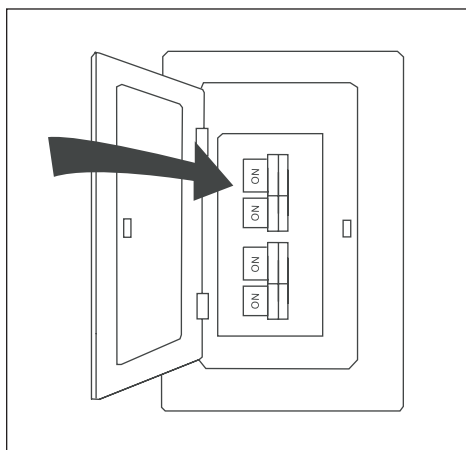

Figure 5.6
6. Turn ON the electrical power at the main fuse or circuit breaker and the wall switch. Assembly is complete (Figure 5.6).